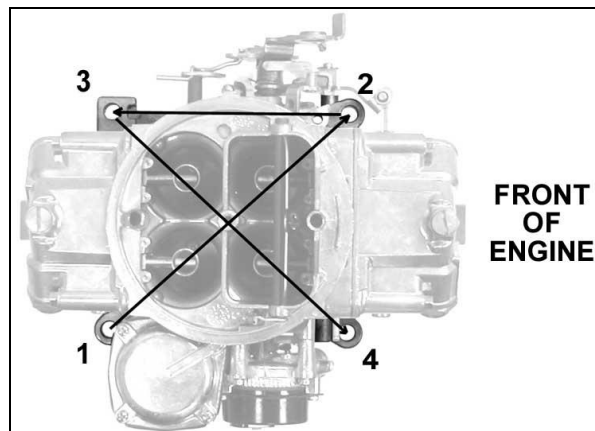

Figure 4—Carburetor hold-down nut torque sequence
3. Place the carburetor on top of the flange gasket on the manifold. Install the hold down nuts and snug down progressively in a “crisscross” pattern (60-80 in./lbs.), as shown in Figure 4.